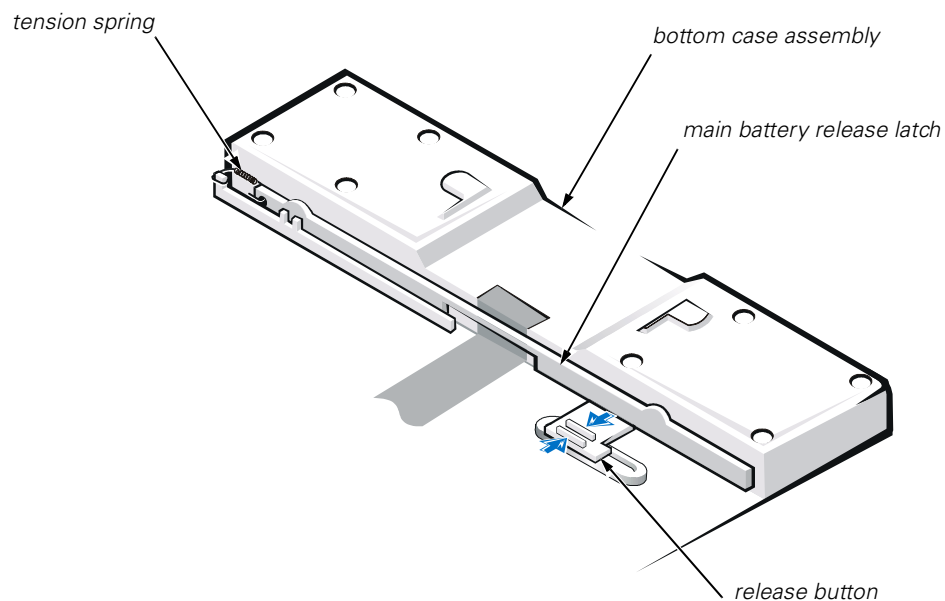

Figure 24. Main Battery Release Latch Removal
6. Using needle-nose pliers, gently squeeze the two tabs on the back of the release button together and grasp the top of the battery release latch and gently pull up to free it from the release button assembly (see Figure 24).